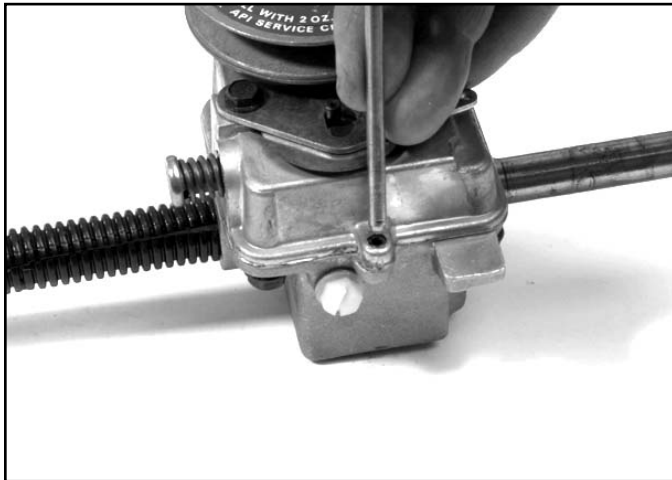

Fig 010
2. Drive the roll pins out of the flanges in the front and rear of the case. (These pins align the top and bottom parts of the case) (Fig. 010).